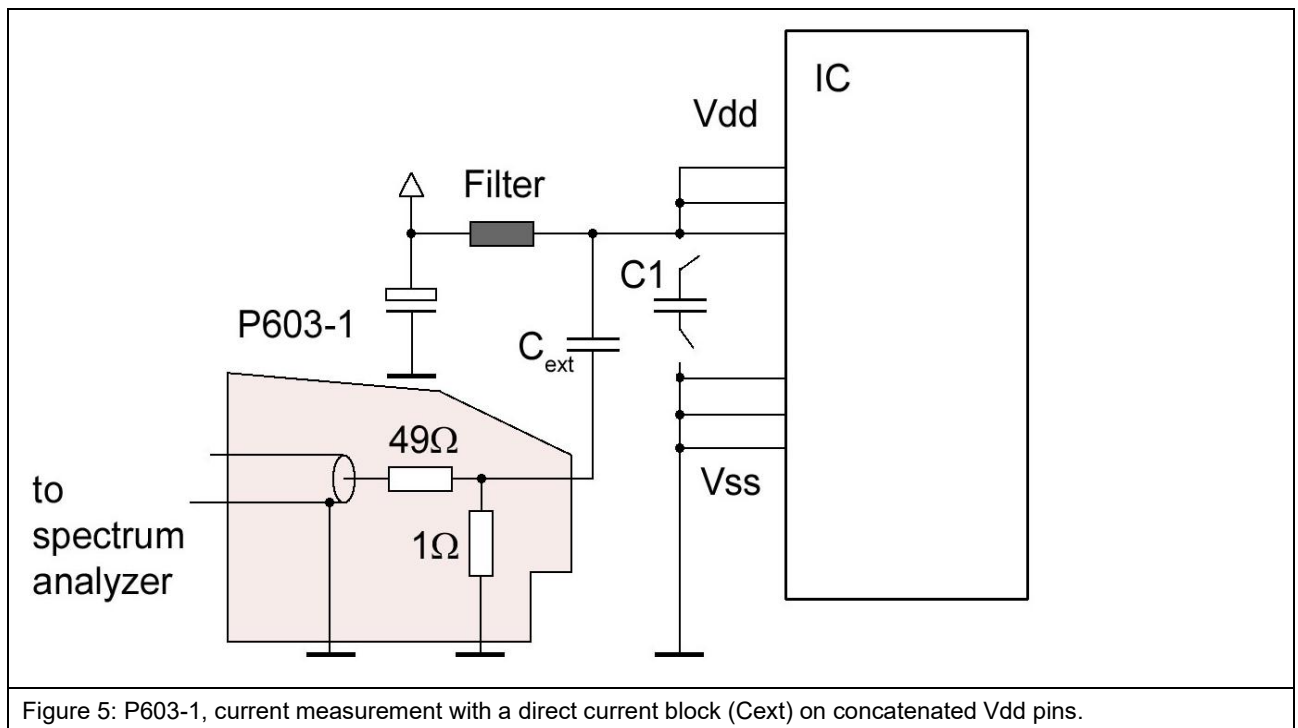

Figure 5: P603-1, current measurement with a direct current block (Cext) on concatenated Vdd pins.
1. Current measurement (P603-1) on concatenated Vdd pins (with external capacity), **Figure 5**